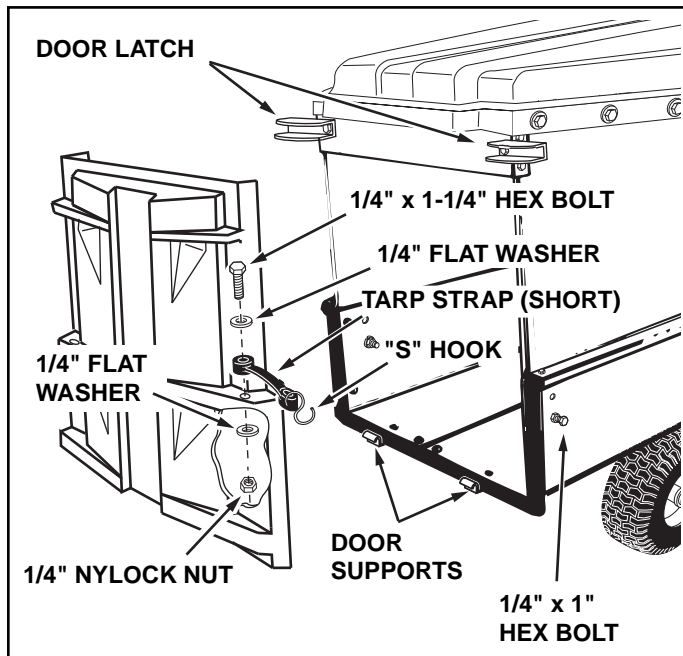

FIGURE 15
25. Assemble a short tarp strap to rear door using one 1/4" x 1-1/4" hex bolt, two 1/4" flat washers and one 1/4" nylock nut. Assemble an "S" hook through loose end of strap. See figure 15. Repeat on other side of door.
26. Assemble door to rear of cart by resting bottom of door on door supports and pushing top of door in against cross brace. Secure top of door using door latches on each side. See figure 15.
27. Hook both the tarp straps onto the 1/4" x 1" hex bolts in the sides of the cart. See figure 15.